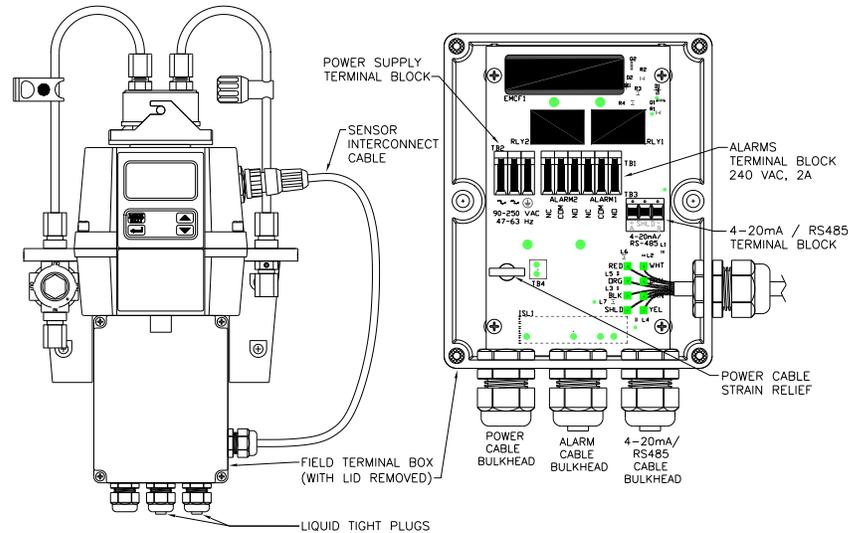

Figure 5: Electrical Connections for the Instrument
All of the electrical connections to the instrument are made through the field terminal box, which should be located directly under the sensor portion of the instrument. The connections are labeled within the terminal box and are self-descriptive (see Figure 5). Please follow all local and government recommendations and methods for installation of electrical connections to and between the instrument and other peripheral devices.
3.3.1 Power: The instrument is equipped with a 100-240 VAC, 47-63 Hz switching power supply; please verify that the line voltage falls within these specifications. It is recommended that a circuit breaker be placed prior to the power connection to allow for service. While making connections, refer to Figure 5. **The S200 TUR is not supplied with a power cord.**